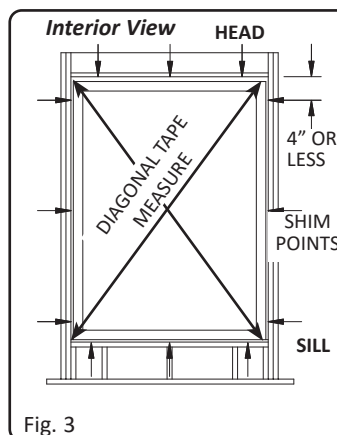

Fig. 3
See Fig. 3. Shim along the head, sill, and side jambs at 4" (102) from the corners/ends, and every 8" (203) on center between. Do not over shim!
See Fig. 3 & 4. Measure the frame diagonally as shown in fig. 3. The measurements must be within 1/16" (2 mm) of each other. Take three separate measurements between the side jambs as shown in fig. 4. These measurements should be the same. Adjust the shims if necessary until the window is square and level.